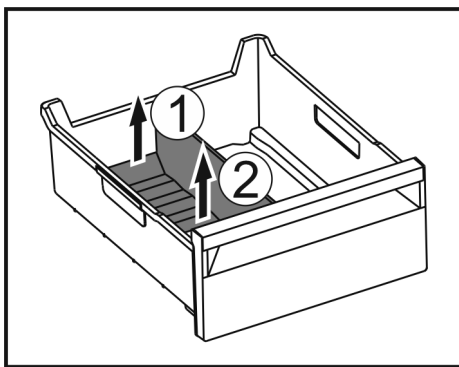

Fig. 183
- ▶ Lift the rear part of the ice compartment divider. Fig. 183 (1)
- ▶ Remove the ice compartment divider upwards. Fig. 183 (2)